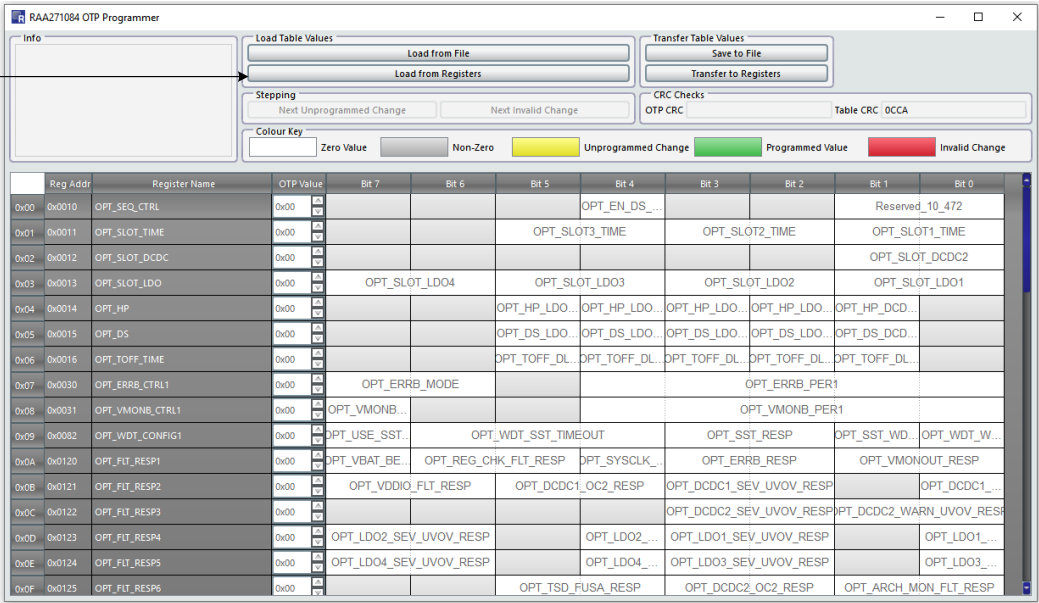

Figure 6. Import OTP Changes from Default Configuration
- 4. In the OTP programmer screen, click **Load From Registers** (Figure 6).